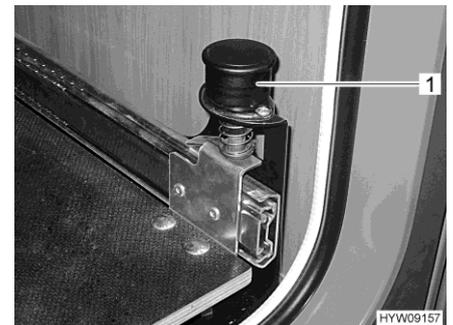

Fig. 118 Knob with locking device
- Pull the knob (Fig. 118,1) upwards. The gas bottle compartment pull-out is unlocked.